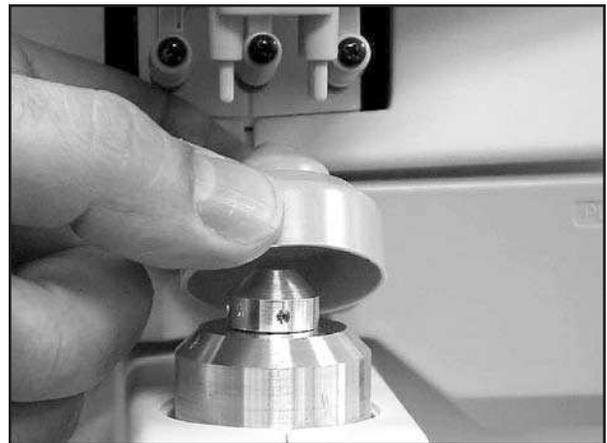

Figure 24. Nosepiece Cover Replacement
1. Remove the Nosepiece Cover from the Nosepiece. Refer to Figure 24.
8. Install the the Nosepiece Cover onto the Nosepiece. Refer to Figure 24.
1. Pull the Nosepiece Cover straight up and off the instrument. Refer to Figure 24.